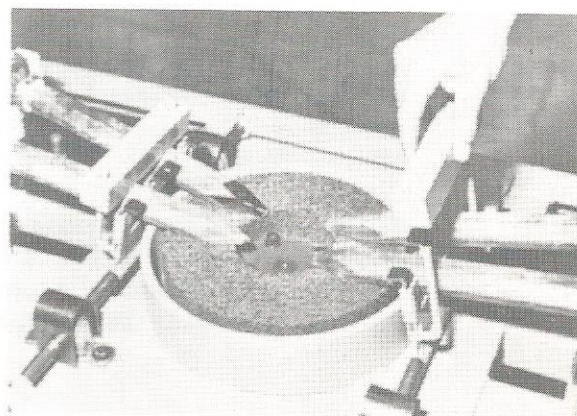

fig. 10
8. If advisable, put the provided weights over the points as shown in fig. 10.